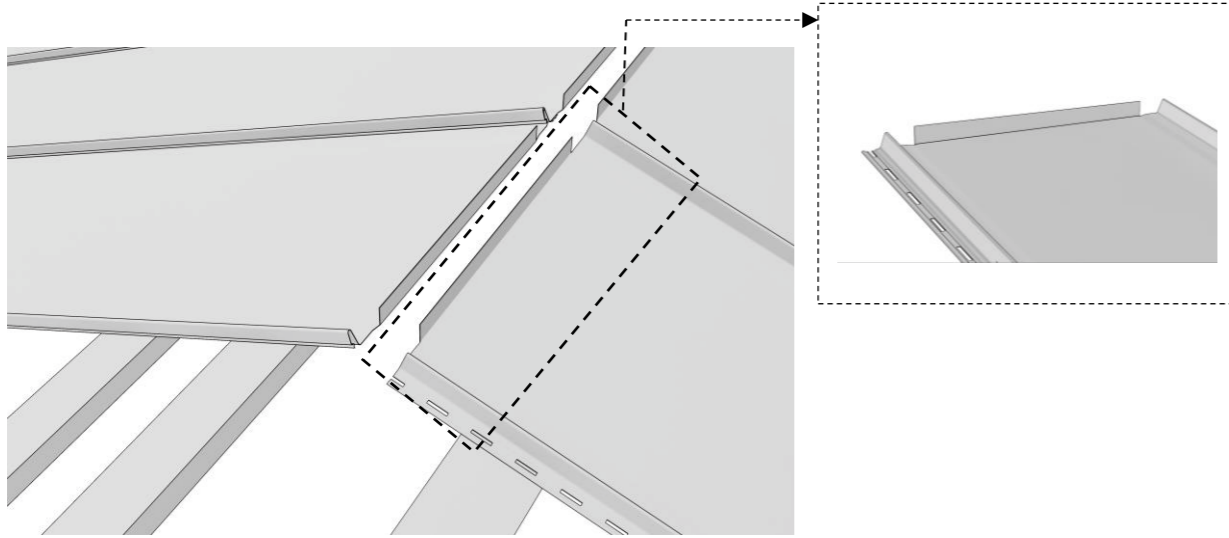

Fig. 21
- If the panels have extensions on the ridge side - fold them upwards (Fig. 21).